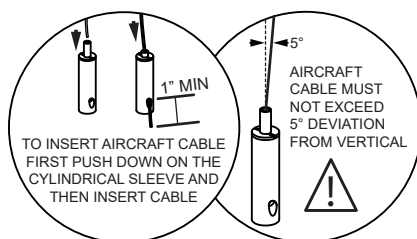

FIG 4
6. LEVEL OR TILT THE FIXTURE USING THE CABLE GLIDERS. TO RELEASE THE GRIPLOCK ON THE GLIDER, PRESS THE PLUNGER (TIP OF THE GLIDER-FIG 4). IF DESIRED, CUT THE EXCESS CABLE CHECK THE TENSION IN SUSPENSION CABLES